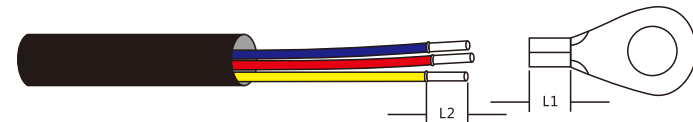

Figure 3.13 Strip AC cable
- A) If using multi conductor cables, strip the end of AC cable outer insulating jacket about 3 inches. Strip the end of each wire . (as shown in figure 3.13)